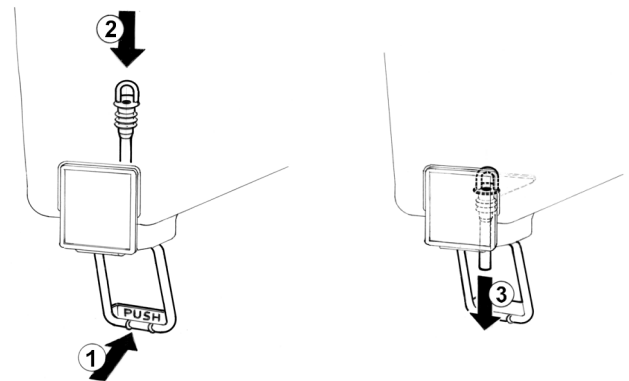

figure 5
- 2 **Pinch tube faucet:** push the dispensing handle (1) and insert the pinch tube into its vertical seat in the bowl bottom (2). Lightly pull the pinch tube end downwards til it is well arranged (3) (see figure 5).